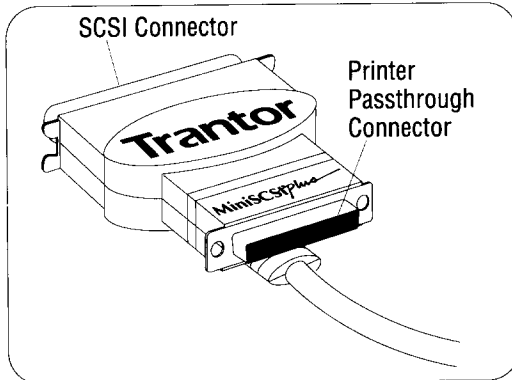

Figure 2 SCSI and Printer Passthrough
2. Connect the first SCSI device to the SCSI connector on the **MiniSCSI Plus** adapter (see *Figure 2*). Other SCSI devices (up to 7 total) may be daisy-chained to the first SCSI device; see your dealer for details if you are not familiar with multiple-device connections.
3. If you wish to simultaneously use a parallel printer with your **MiniSCSI Plus** adapter, connect it to the **MiniSCSI Plus** printer passthrough connector (see *Figure 2*) with a standard parallel printer cable. No special configuration or switching is needed to continue using your printer.